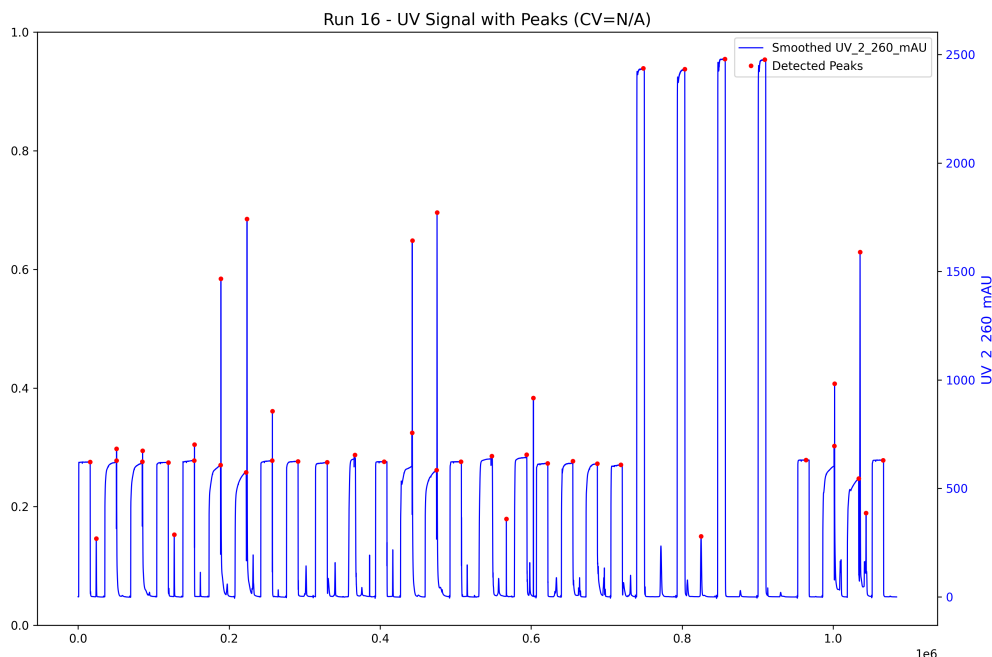

Figure 1: Figure 1: Assessment of chromatographic retention time reproducibility across runs.
The analysis reveals significant inter-run variability in chromatographic retention times. As illustrated in Figure 1, the box plot of RT values stratified by ‘run_no’ displays overlapping interquartile ranges and distinct
medians, suggesting systematic differences between runs rather than random noise. The right panel of Figure 1 confirms the successful application of signal preprocessing, showing a smoothed UV signal with detected peaks that anchor the RT calculation to the signal maximum. The methodological approach correctly filtered out rows with missing ‘Fraction_unique_ID’ and handled negative ‘volume_ml’ values, resulting in a clean baseline in the signal plot. However, the current visualization presents limitations. The absence of explicit confirmation regarding the specific smoothing parameters (e.g., AsLS lambda) or the peak detection algorithm used limits the reproducibility of the findings. Furthermore, the lack of error bars or confidence intervals in the box plot restricts the ability to statistically assess the significance of differences between runs. While the data quality appears high for the selected subset with no obvious outliers, the reliance on ‘run_no’ as the sole proxy for replication, given the 99.9% missingness of ‘Injection_ml’, introduces potential bias if injection volumes varied between runs. Additionally, the figure does not visually demonstrate the temporal drift assessment (linear regression of RT vs. run) or the coefficient of variation (CV) calculation per run, which are essential for quantifying run-to-run consistency. These findings indicate that while the process shows signs of variability, distinguishing between methodological inconsistencies and genuine biological variability requires access to the full dataset’s injection metadata and more detailed statistical reporting.